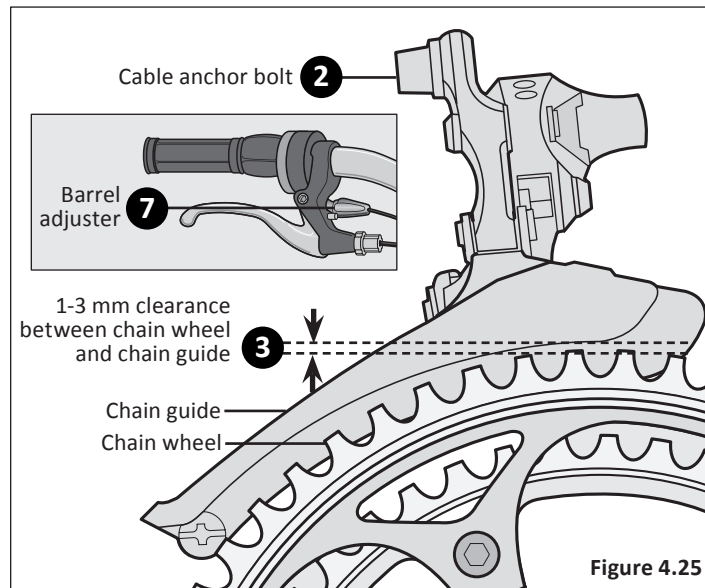

Figure 4.25
- 2 Disconnect the front derailleur cable from the cable anchor bolt. **Figure 4.25**